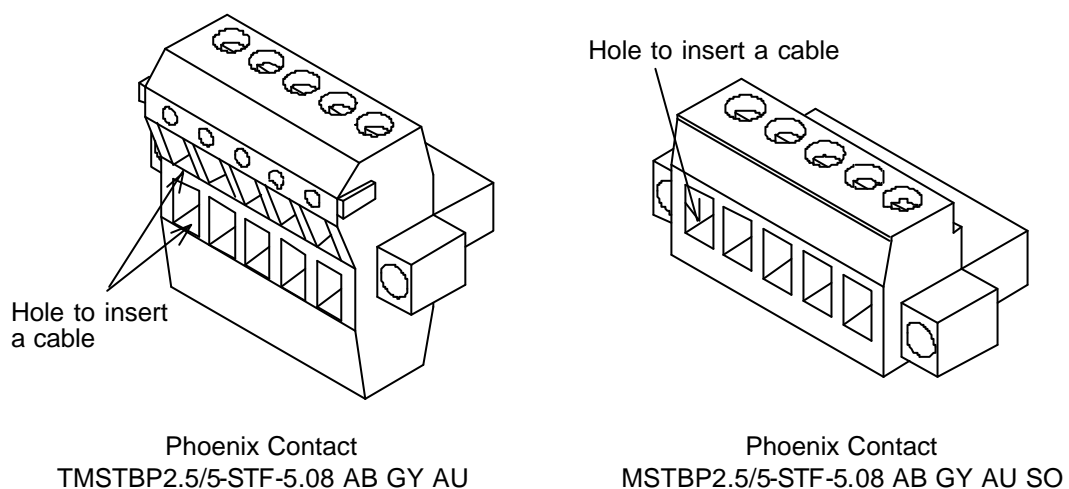
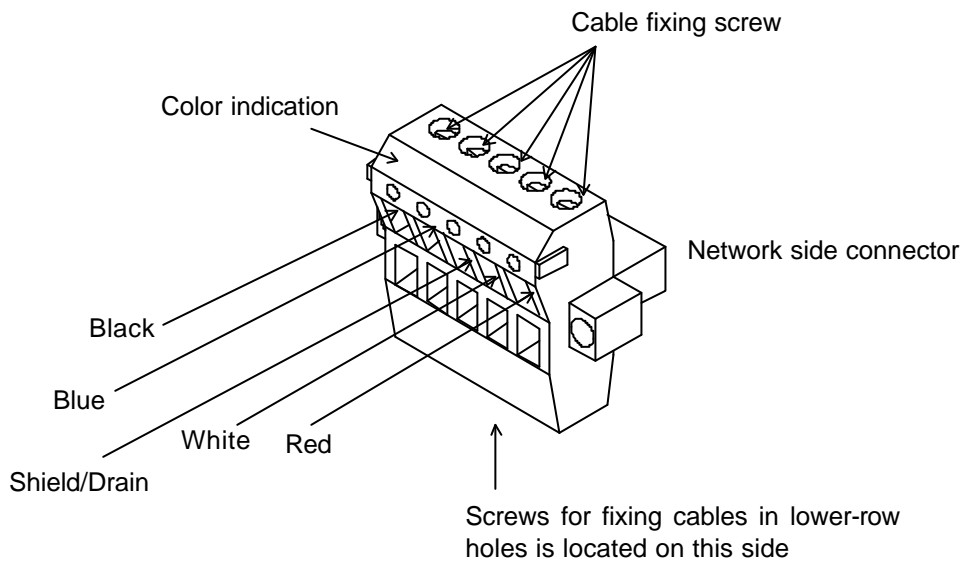

Figure 3.5 Network Side Connectors Attached to the DN611
Figure 3.7 Connecting Cables with Network Side Connector
The DN611 supports the plug connection connector (open type). It has two types of network side connectors attached, as shown in Figure 3.5. Follow the order stated below to connect the DeviceNet cable to the DN611.
This section describes how to connect DeviceNet cables to network side connectors by using Figure 3.5 at the left side (upper and lower rows with holes for inserting cables) on the preceding page. As shown in Figure 3.7, loosen screws on the cable connectors beforehand. Match the colors of the cable coatings with those of the network side connector before inserting the cables into the connectors. Tighten the screws for fixing cables.
5. When you use the network side connector that has the upper and lower rows with holes for cables (at the left-side Figure 3.5), the connector protrudes from the left-side DN611 about 5mm. When you attach or detach the left-side module of DN611, you must detach the connector from DN611.